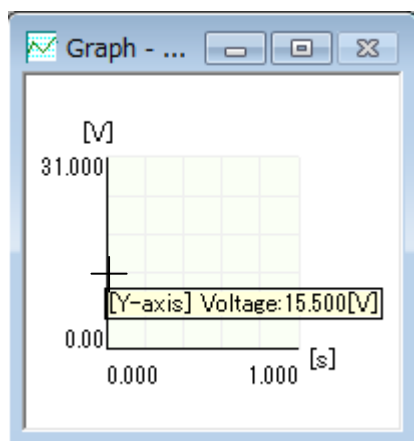
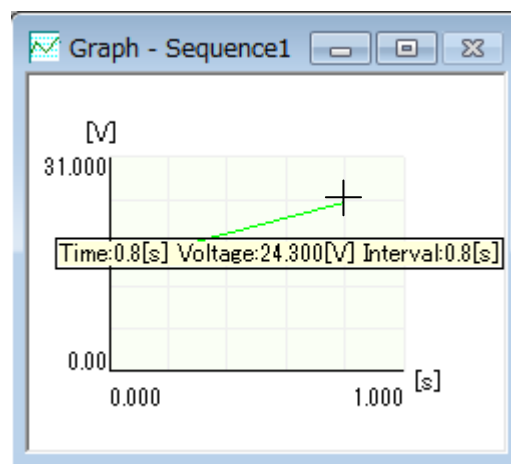
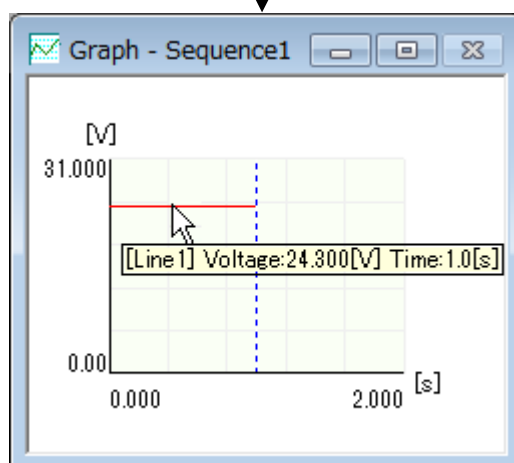

Fig. 7-1 Start Point of the Mouse
Fig. 7-2 Moving the Mouse
Fig. 7-3 End Point of the Mouse
- (1) Move the mouse pointer to the Y-axis. This causes the pointer to change to a crosshair (Fig. 7-1). At that location, hold down the left mouse button and drag the mouse with the crosshair (Fig. 7-2). Release the left button at any location to establish that data point (Fig. 7-3).